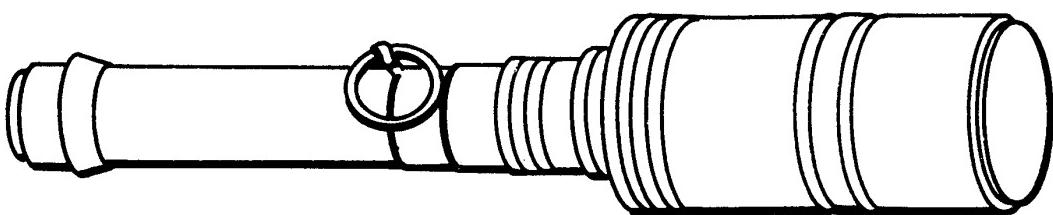

Figure D-4. RKG-3M antitank hand grenade.
- Type: Antitank. (Figure D-4)